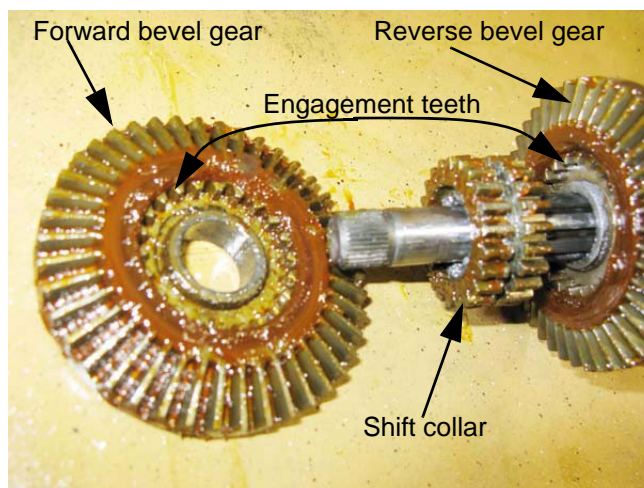

Figure 5.68
13. Lift the bevel gears out of the transaxle for disassembly and (mostly) visual inspection. See Figure 5.68.